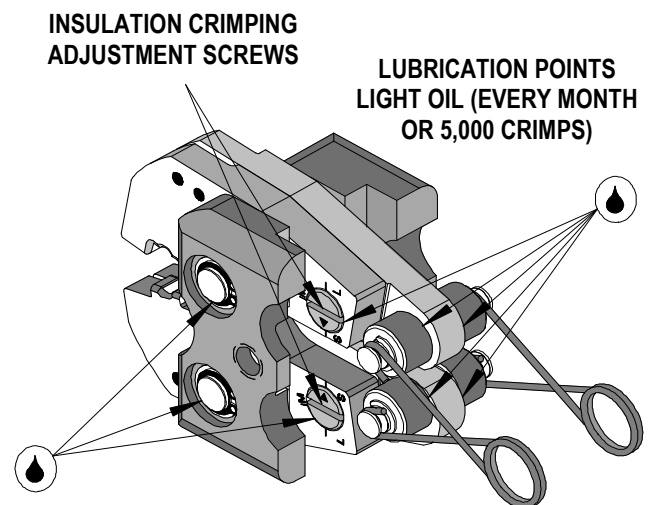

Figure 7
1. The crimp tool heads for the insulated terminals and the connectors feature an adjustable insulation support crimp to accommodate varying wire insulation diameters (See Figure 7) for old style crimp tool head.